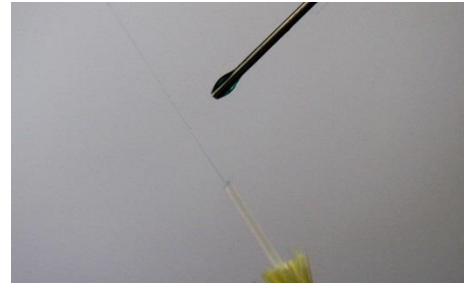

Figure 10
3.2. Apply activator on the stripped fibre as well as on the secondary coating over a length of approx. 5mm completely. Therefore brush the fibre with the activator brush or apply with the activator syringe a dose until it forms a drop sticking at the needle. Move the fibre through this drop (figure 10). Let the activator dry for approx. 30 seconds.